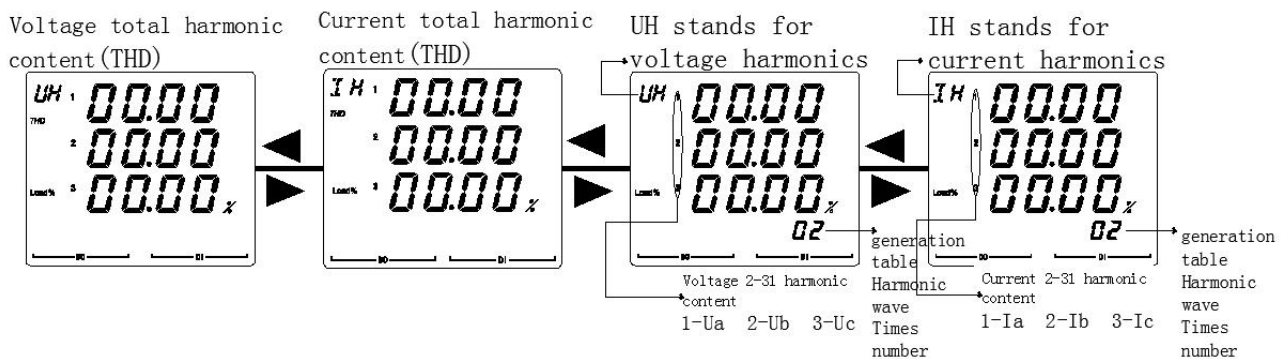

Figure 20.
5.2.5 View the harmonic parameters of the AMC72L/96L meter as shown in Figure 20.